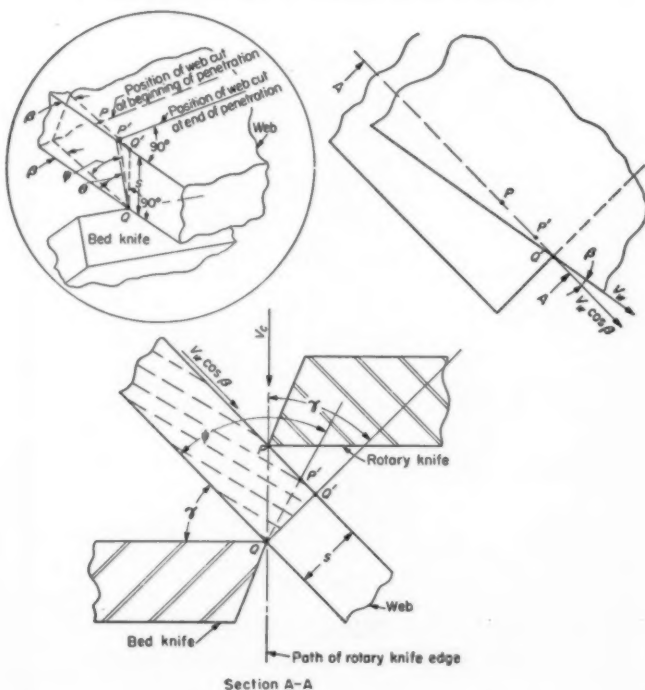

Fig. 4—Diagram of hyperbolic flycutter. Bed knife is stationary
- Angle between perpendicular to plane of web and radius through terminal cutting point on stationary bed knife (Fig. 4), deg
A diagram of a hyperbolic flycutter is shown in Fig. 4; it is assumed that the plane in which the edge of the rotary knife lies is parallel to the knife so axis that, in the end view, it appears as a straight line. If the cut must be straight, it is apparent from Fig. 4 that the ratio between the web and the knife speed cannot be constant during the cutting period. The cut edge is line AB_0 perpendicular to the web flow and cutting begins at point A. The rotary knife is shown in the position when it is passing this point. Point B_0 on the web where the cut edge ends must move to point B on the bed knife before cutting at this point occurs. During the same period the point C on the rotary
The ratios between web and knife speed necessary to obtain a straight cut with a hyperbolic flycutter can be calculated from Fig. 4. When cutting has progressed from point A to point B_0 on the web, B_0 has moved through the distance $u = BB_0$. From triangle BNM in the end view of Fig. 4
From triangle AFN in Fig. 4 the distance